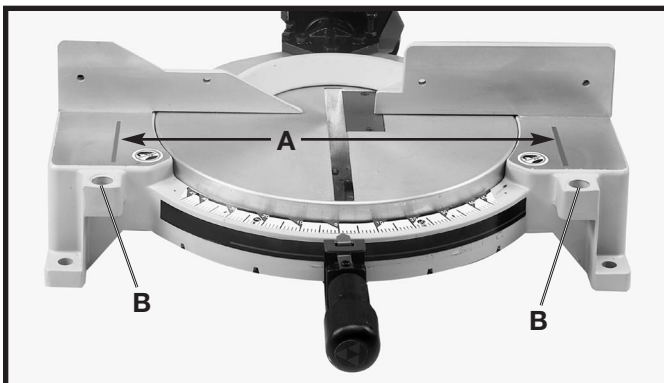
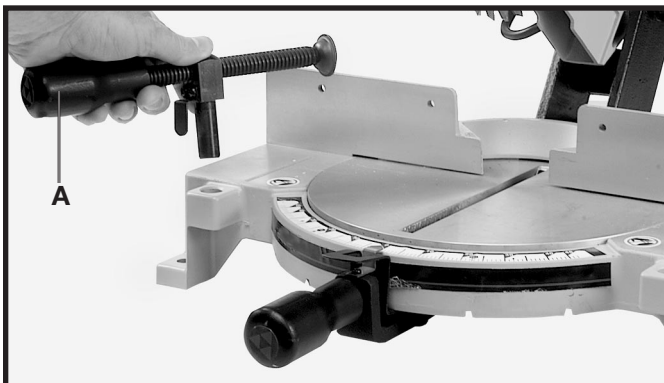
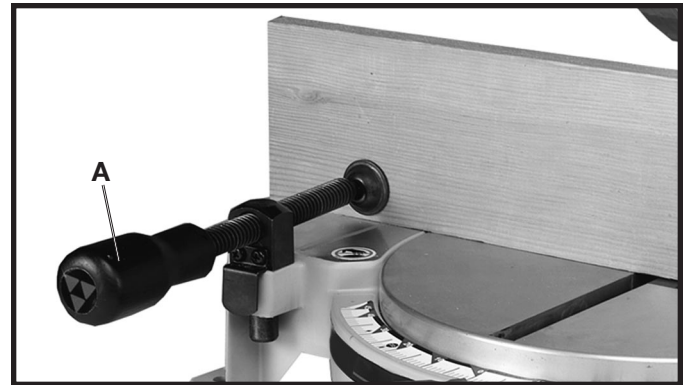

Fig. 10
Fig. 11
Fig. 31
**⚠ WARNING** THE AREA INSIDE THE TWO RED LINES (A) FIG. 10 ON THE TABLE IS DESIGNATED AS A HAZARD ZONE. NEVER PLACE YOUR HANDS INSIDE THIS AREA WHILE THE MACHINE IS RUNNING.
1. An optional work clamp (A) Fig. 11 is available. Use this accessory clamp, especially with short workpieces. Never allow your hands to be in the "Hazard Zone".
2. Two holes (B) Fig. 10 are provided in the base of the miter saw, enabling you to use the clamp (A) Fig. 11 on either the right or left hand side of the saw blade.
2. Place the workpiece on the table and hold or clamp it firmly against the fence. Fig. 31 illustrates an accessory work clamp (A). The clamp (A) can also be used on the right side of the machine (See Fig. 10).